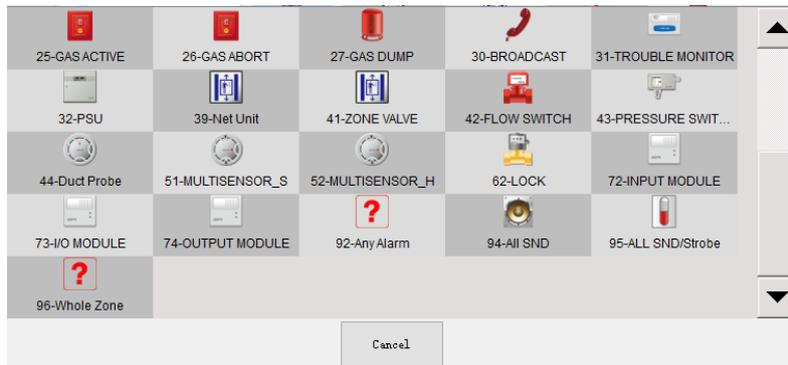

Fig. 5.4
To start all devices in a zone, you can choose 96-Whole Zone then click **OK** as shown in Fig.5.4. To start all alarm devices like detectors and manual call points, you can choose 92-Any Alarm. To start all sounders, you can choose 94-allSND.
- **Disable:** clicking **Disable** button enters the screen for disabling the device screen. Disabling operations include options such as **Disable Zone**, **Disable Device** and **Disable ALARM OUTPUT or SOUNDER OUTPUT**. Users can disable devices of a whole zone by choosing 96-Whole Zone in Fig. 5.4 and disable all alarm devices by choosing 92-Any Alarm., The operation is the same as the starting devices.